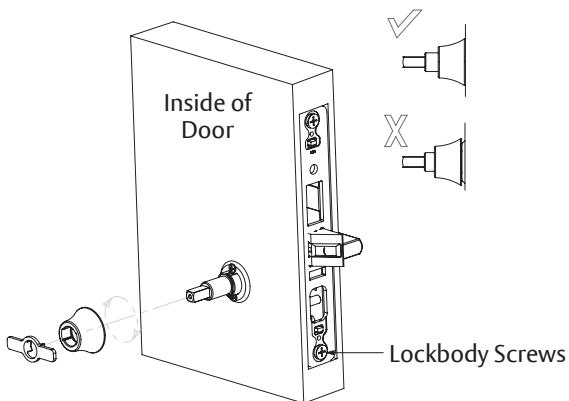

Figure 7
1. Secure lockbody in door with two (2) wood screws #12 x 1-1/4" or two (2) #12-24 x 1/2" machine screws. (Figure 7)
2. Attach collar to adapter by rotating clockwise using tool supplied. Assemble flush with door. (Figure 7)